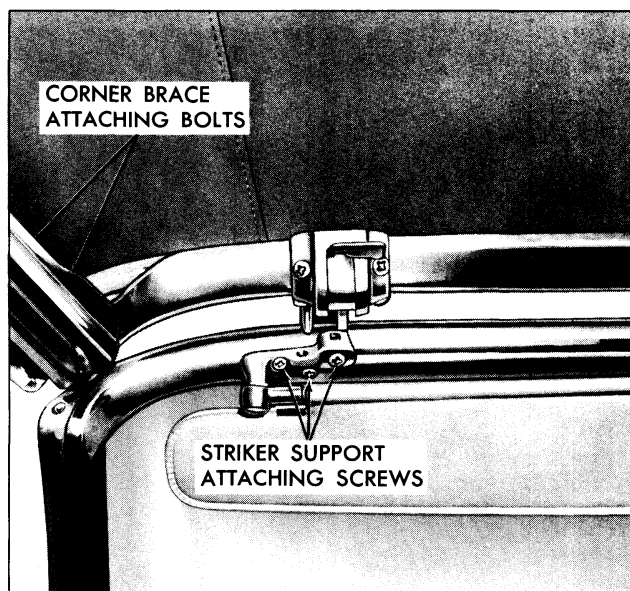

Fig. 21-4 Pontiac Striker Support
2. Loosen striker support attaching screws and adjust striker laterally as required; then tighten attaching screws (see Fig. 21-4).